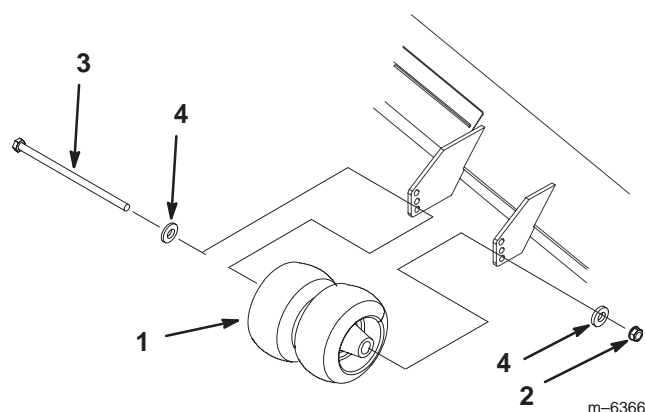

Figure 20
1. After adjusting height-of-cut, check the gage wheels so that there is a minimum of 3/8 inch (10 mm) clearance above the ground (Fig. 20).
2. If adjustment is needed, remove the bolt, washers and nut (Fig. 20).
3. Select a hole position so the gage wheels are a minimum of 3/8 inch (10 mm) off the ground (Fig. 20).
4. Install the bolt, washers and nut (Fig. 20).